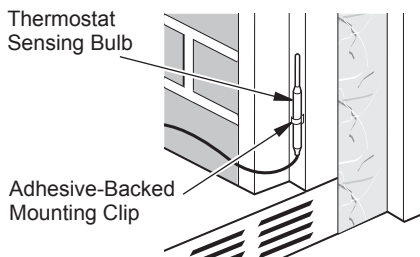

Figure 22 - Installing Thermostat Sensing Bulb in Factory-Built Metal Fireplace
2. Remove the thermostat sensing bulb out of the plastic clip (see Figure 22).